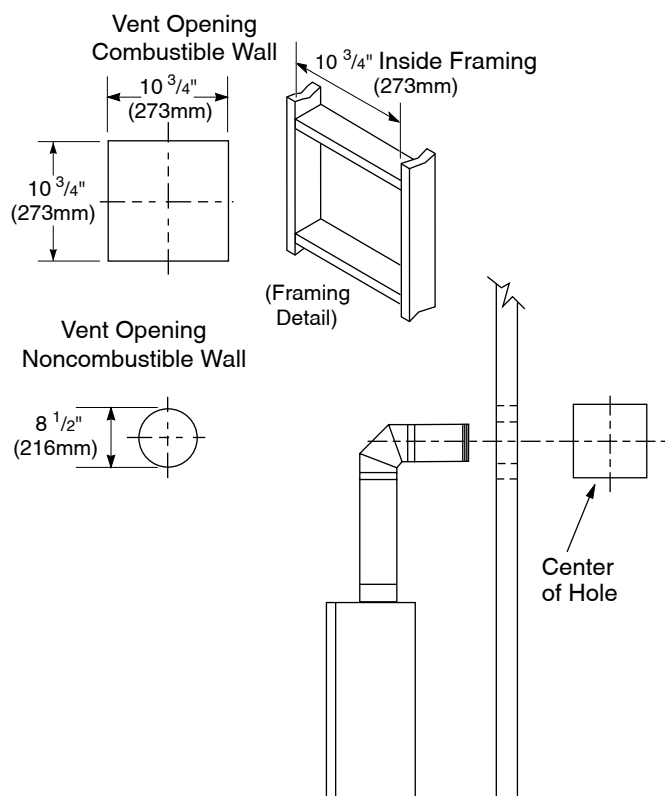

Figure 12 - Vent Opening Requirements
5. Carefully determine the location where the vent pipe assembly will penetrate the outside wall. The center of the hole should line up with the center-line of the horizontal vent pipe. Mark the wall for a 10 3/4" x 10 3/4" square hole. Cut and frame the square hole in the exterior wall where the vent will be terminated. If the wall being penetrated is constructed of noncombustible material, such as masonry block of concrete, a 8 1/2" hole with zero clearance is acceptable (see **Figure 12**).
1. Cut a 10 3/4" square hole in the ceiling using the locating hole as a center point. The opening should be framed to 10 3/4" x 10 3/4" (273 mm x 273 mm) inside dimensions, as shown in **Figure 12** on page 9 using framing lumber the same size as the ceiling joists. If the area above the ceiling is an insulated ceiling or a room, nail firestop from the top side. This prevents loose insulation from falling into the required clearance space. Otherwise, install firestop below the framed hole. The firestop should be installed with no less than three nails per side (see **Figure 27**).
3. Cut a hole in the roof using the locating hole as a center point. (Cover any exposed open vent pipes before cutting hole in roof.) The 10 3/4" x 10 3/4" hole must be measured on the horizontal; actual length may be larger depending on the pitch of the roof. There must be a 1" clearance from the vent pipe to combustible materials. Frame the opening as shown in **Figure 12**, page 9.